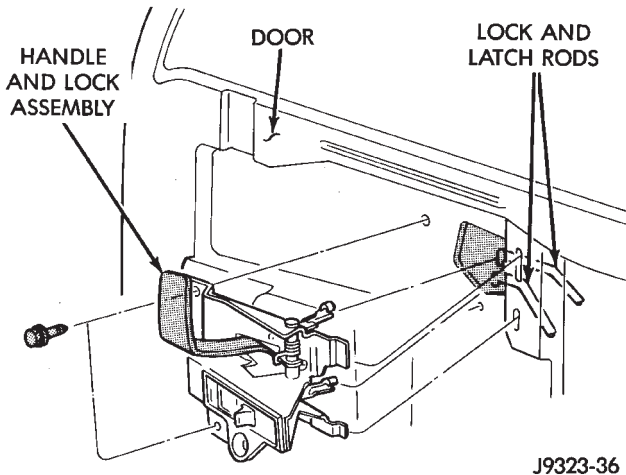

Fig. 1 Front Door Inside Latch Release Handle
(1) Remove inside release handle assembly screws (Fig. 1).